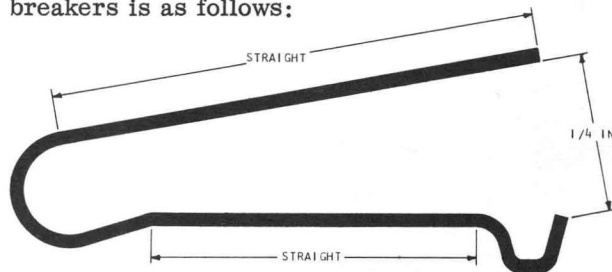

Figure 6-7. PM Relay Contact Wires
4. Check new contacts for correct configuration before installing (Figure 6-7).